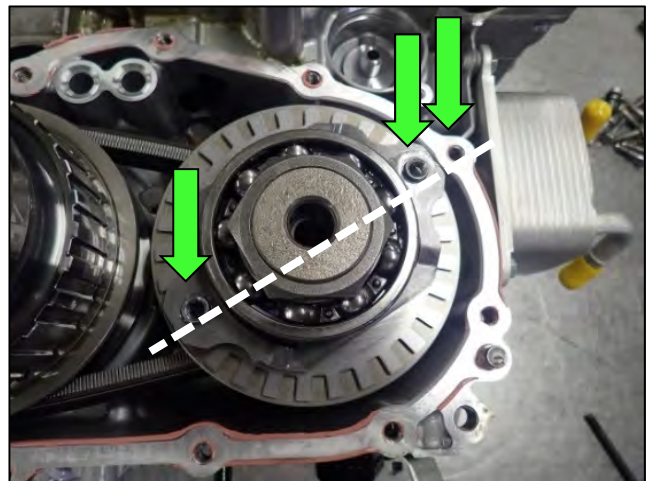

Figure 101
77. Align the primary pulley bearing retainer bolt holes with the bolt hole on the case (Figure 101).